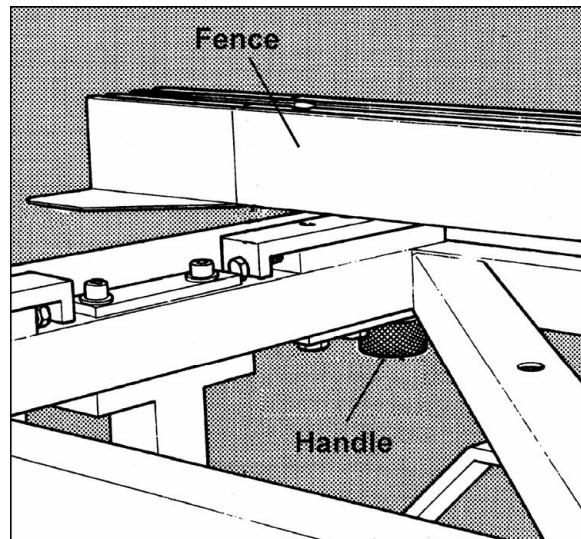

Figure 15
1. The crosscut table has four holes allowing the fence to be placed in two positions: at the left or right of the crosscut table. Place the fence on to the crosscut table as shown in Figure 15, and lock it in position with the two serrated handles.